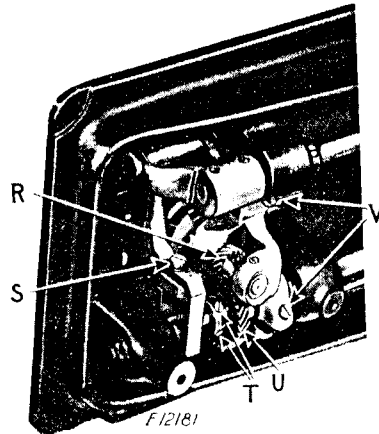

Fig. 18. Adjustment of Hook Saddle
Loosen the two screws (T, Fig. 18) in the hub of the hook driving gear (U, Fig. 18) and tap this gear to the right or left on the hook driving shaft until the point of the hook is at the center of the needle. Tapping to the right gives an earlier hook timing, and to the left a later hook timing. Securely tighten the two set screws (T) in the gear.
Turn the balance wheel over toward you until the point of the sewing hook is at the center of the needle. Loosen the two screws (V, Fig. 18) underneath the bed of the machine and move the hook saddle to the right or left, as may be required, until the point of the hook is as close to the needle as possible without striking it, then securely tighten the two screws (V).
Remove the throat plate, feed dog and the bobbin case opener. Loosen the two screws in the hook shaft gear (R, Fig. 18) and lift out the sewing hook.
Remove the throat plate; clean the lint and dust from between the feed points and replace the throat plate; tip the machine back and turn the balance wheel towards you until the feed dog is at its highest position; loosen screw (S, Fig. 18) in the feed lifting cam fork on the feed bar and raise or lower the feed dog, as may be required, and retighten the screw (S).